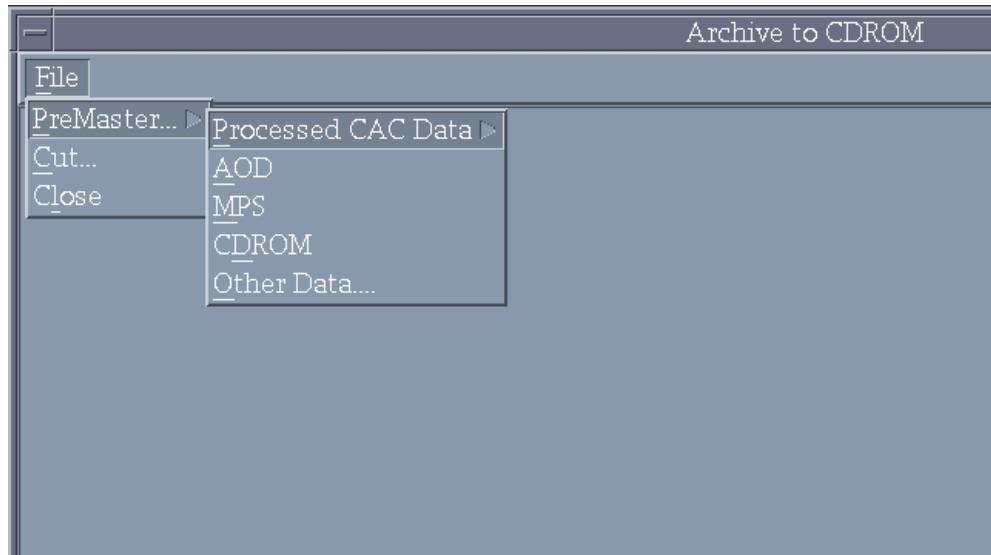

Fig. 9 – Archive to CDROM window
- From the **Archive to CDROM** window, click on *File*, then click *PreMaster* (Fig. 9), and then *Processed CAC Data*. Select the map scale *JNC(1:2M)*.
- From the **Archive to CDROM** window, click on *File*, and then *Cut* (Fig. 9).
- From the **Archive to CDROM** window, click on *File*, and then *Close* (Fig. 9).
- From the **Archive to CDROM** window, click on *File*, then click *PreMaster* (Fig. 9), and then click *Processed CAC Data*. Select the map scale *TPC (1:500k)*.
- vi. From the **Archive to CDROM** window, click on *File*, and then *Cut* (Fig. 9).
- x. From the **Archive to CDROM** window, click on *File*, and then *Close* (Fig. 9).
- ii. From the **Archive to CDROM** window, click on *File*, then click *PreMaster* (Fig. 9), and then click *AOD*.